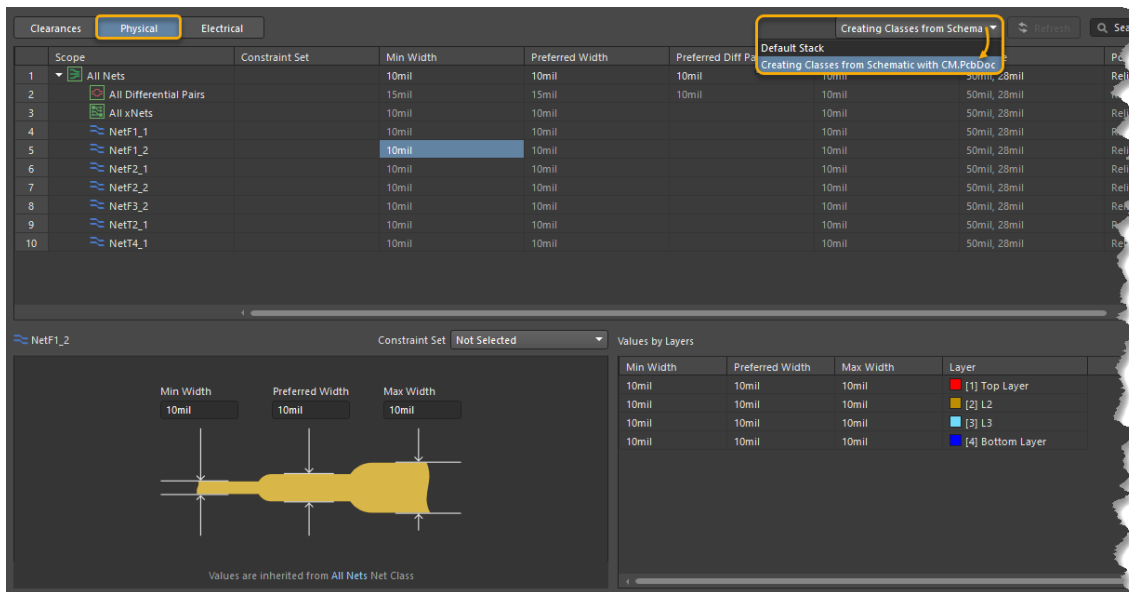

Figure 4. Selecting the required stack
- Still in the Constraint Manager from the Schematic, select the *Physical* constraint view, and use the drop-down menu to select a specific PCB document from the design project, Figure 4.